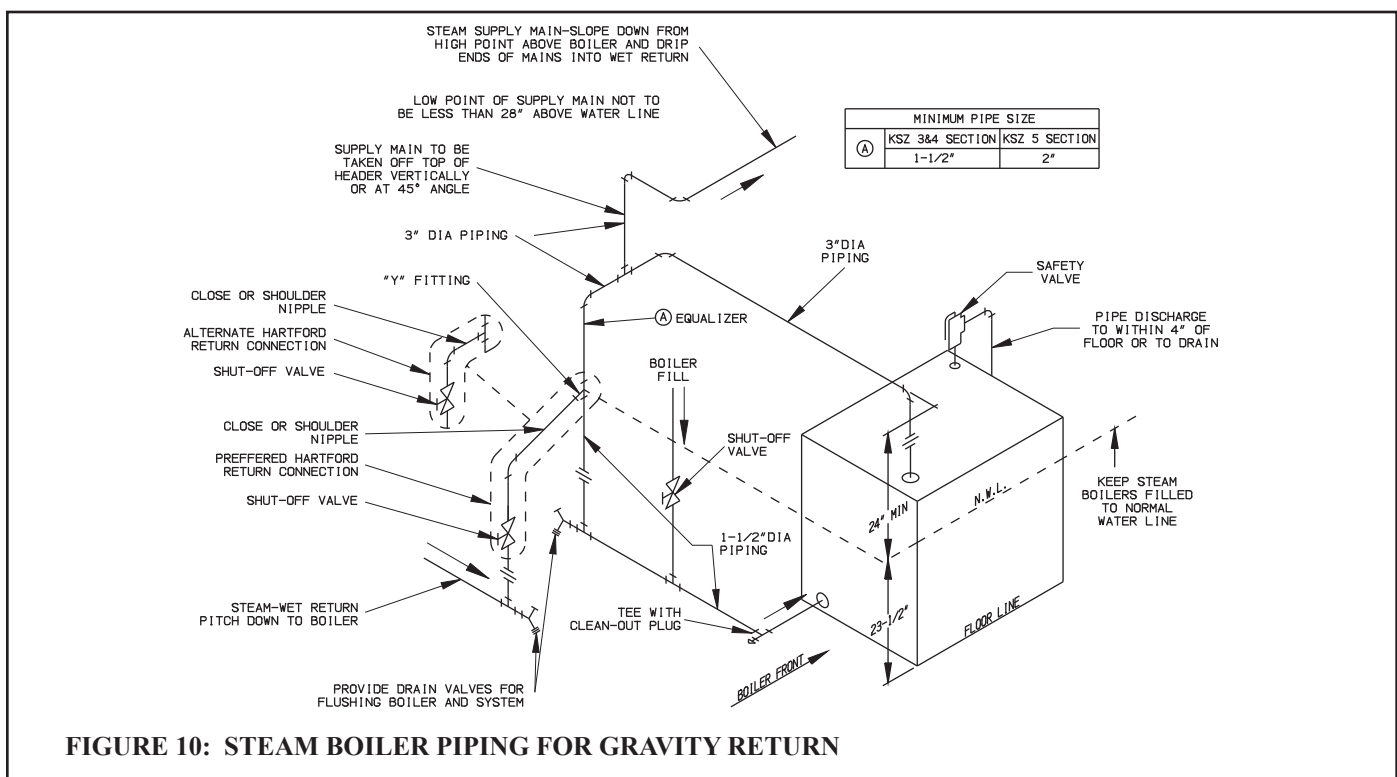

FIGURE 10: STEAM BOILER PIPING FOR GRAVITY RETURN
Figure 10 shows recommended near boiler Piping for most common types of gravity return steam systems. Additional information on steam system design may be found in the *I=B=R* Guide RHH published by the Air-Conditioning, Heating and Refrigeration Institute (AHRI).
- 5) Connect system supply and return to boiler. See Figure 10. All KSZ boilers use one supply riser and one return tapping.